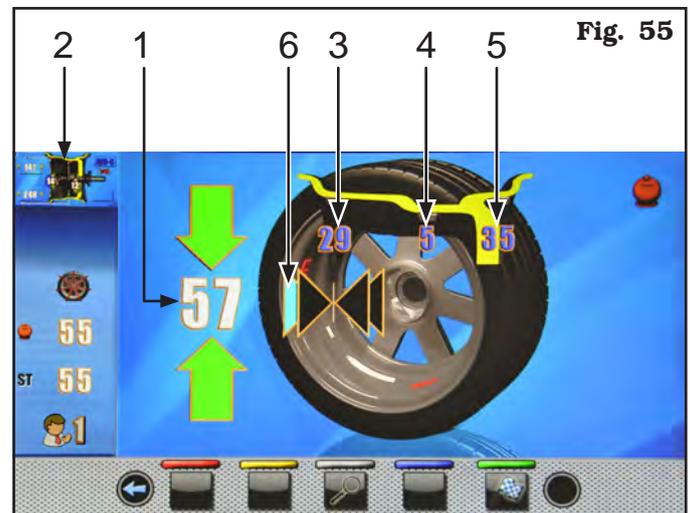

Fig. 55
Pull out the gauge rod until the arrows (**Fig. 55 ref. 6**) turn green.
IMMEDIATELY AFTER HAVING SELECTED THE ECO-WEIGHT PROCEDURE, YOU CAN KNOW IN ADVANCE THE TWO DYNAMIC UNBALANCES AND THE STATIC RESIDUE IN ORDER TO DECIDE WHETHER IT IS CONVENIENT TO CONTINUE (SEE FIG. 55).